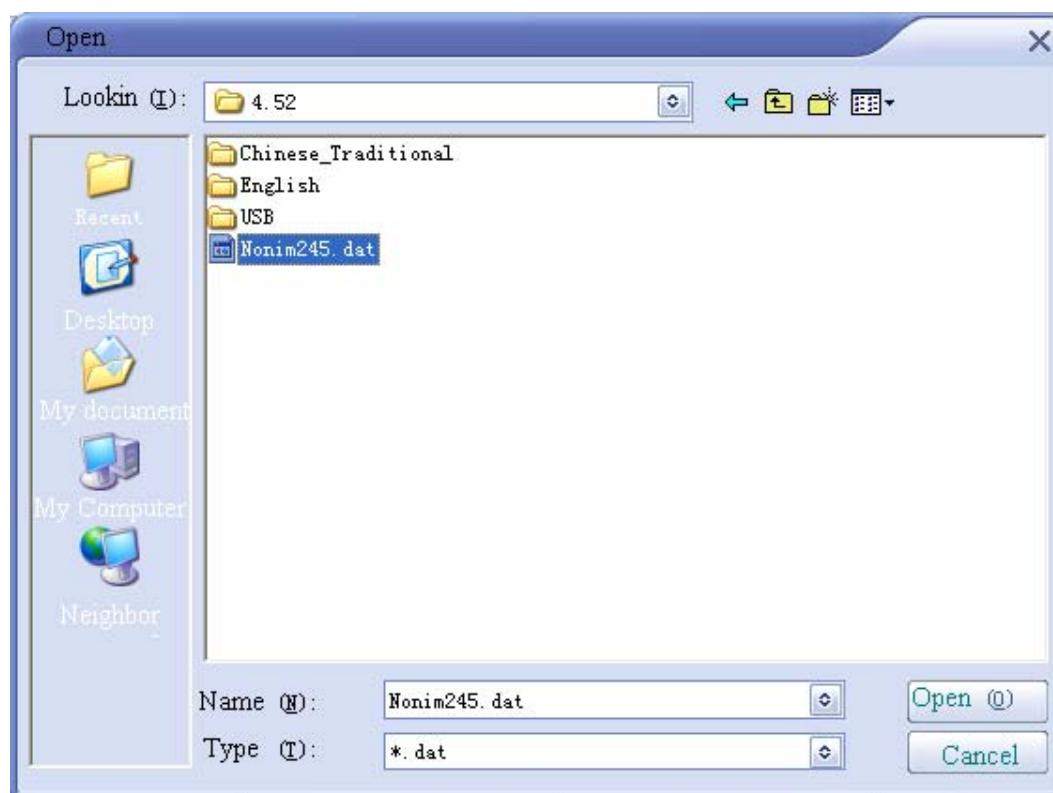

Figure 3.8C Restore data archive---select data file with ".dat"
- ✧  **Restore:** restore the data records from the data file which is backed up by  "Backup/Del" function to the current user's account, as shown in figure 3.8C & 3.8D.